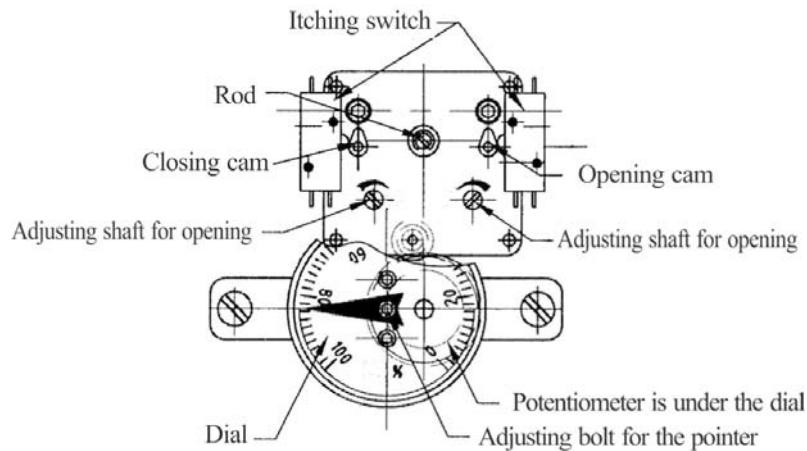

Fig.4
- Before setting first check if the cam is in the position shown in figure4 and if the carrier rod has been screwed down.
- When performing item e of 6.1 Primary stroke adjustment, if the valve has not been opened completely but cam has pressed on microswitch, you should stop manual operation, set down carrier rod and turn opening adjustment shaft of counter clockwise to make cam return to the position shown in figure4. And then, according to the adjustment amount, go on turning the shaft for more turns clockwise, so as to provide the counter enough adjustment amount. Now turn and lift carrier rod again and go on with item e.